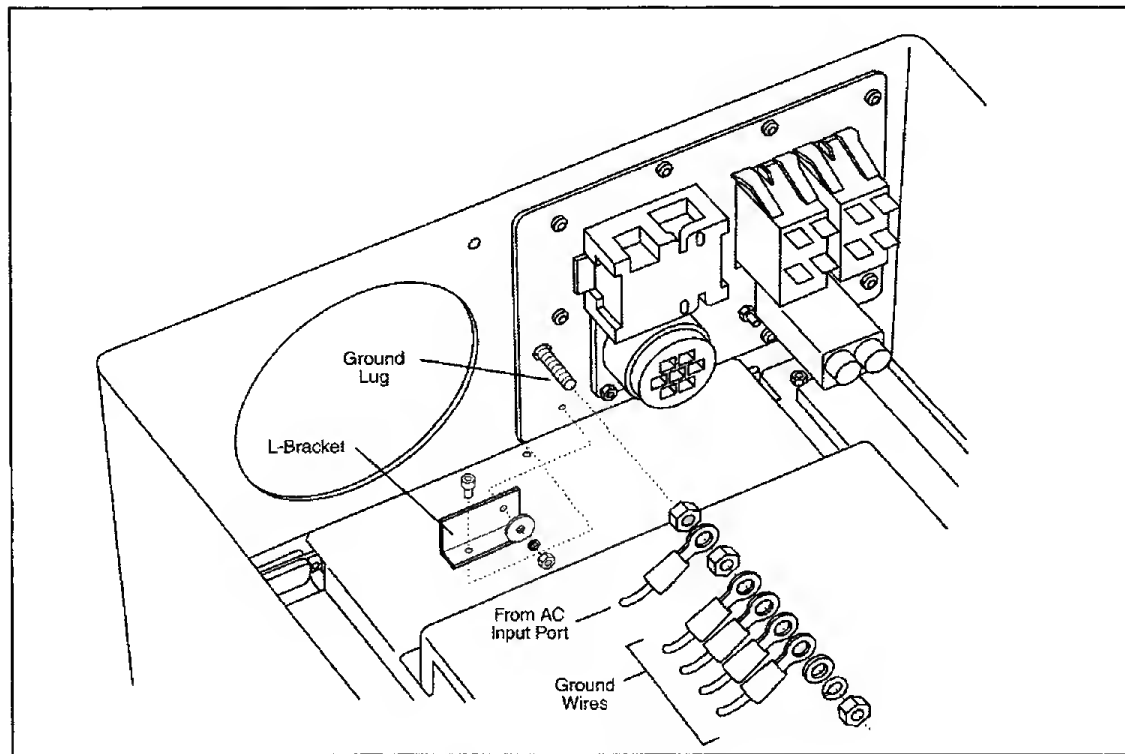

Figure 7-14: AC Distribution Panel (Rear View)
3. Remove the nut and washers holding the three ground wires to the ground lug and the ground lug to the Top Enclosure then remove the lug (see Figure 7-14).
4. Loosen the screw holding the L-bracket then lift the AC Distribution Panel and rest it outside the Top Enclosure (see Figure 7-14).
9. Remove the screw holding the L-bracket to the PCBA shroud then remove the L-bracket (see Figure 7-14).